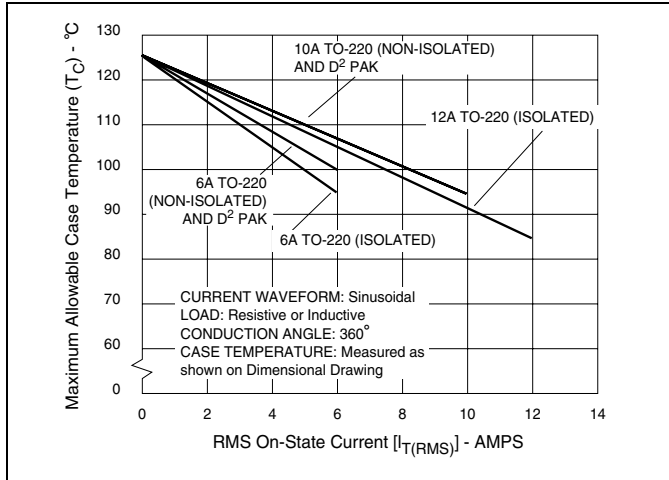
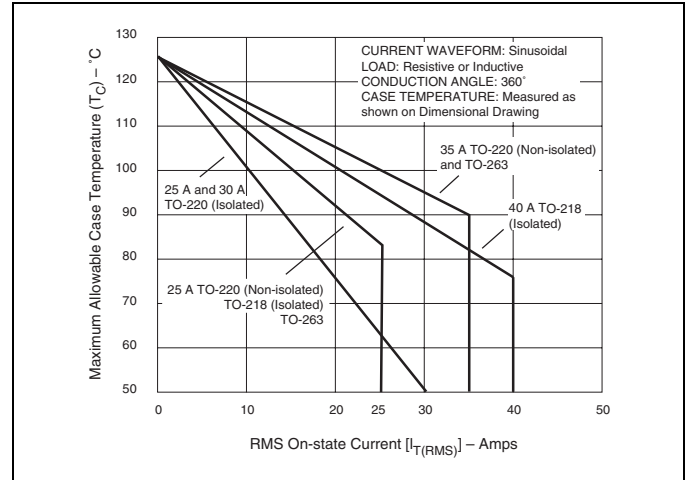
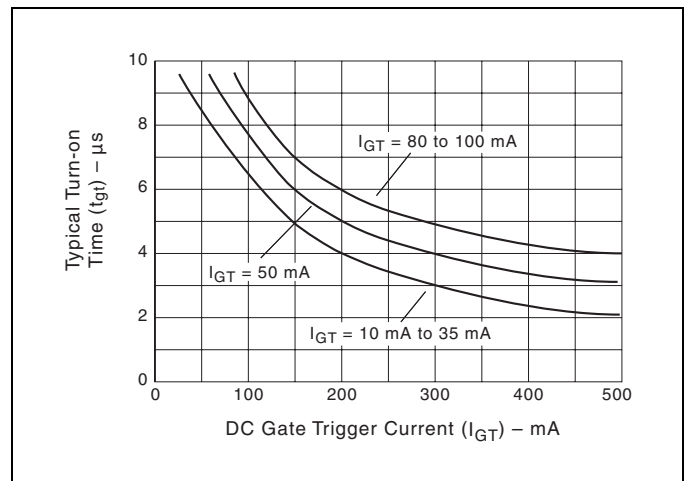

Figure E4.1 Maximum Allowable Case Temperature versus On-state Current (6 A to 12 A)
Figure E4.4 Maximum Allowable Case Temperature versus On-state Current (25 A to 40 A)
Figure E4.12 Turn-on Time versus Gate Trigger Current (Typical)
- See Figure E4.1 through Figure E4.4 for current rating at specific operating temperature and Figure 4.16 for free air rating (no heat sink).
- (10) See Figure E4.12 for t_{gt} versus I_{GT} .
- (11) See package outlines for lead form configurations. When ordering special lead forming, add type number as suffix to part number.
- (12) Initial on-state current = 400 mA dc for 16 A to 40 A devices and 100 mA for 6 A to 12 A devices.
- (13) See Figure E4.1 through Figure E4.4 for maximum allowable case temperature at maximum rated current.
- (14) Pulse width $\leq 10 \mu s$; $I_{GT} \leq I_{GTM}$
- (15) For 6 A to 12 A devices, $R_L = 60 \Omega$; 16 A and above, $R_L = 30 \Omega$
- (16) 40 A pin terminal leads on K package can run 100 °C to 125 °C.
- (17) Alternistor does not turn on in Quadrant IV.
- (18) $T_C = T_J$ for test conditions in off state
- (19) $I_{GT} = 200 \text{ mA}$ for 6 A to 12 A devices and 500 mA for 16 A to 40 A devices with gate pulse having rise time of $\leq 0.1 \mu s$.
- (20) Minimum non-trigger V_{GT} at 125 °C is 0.2 V.